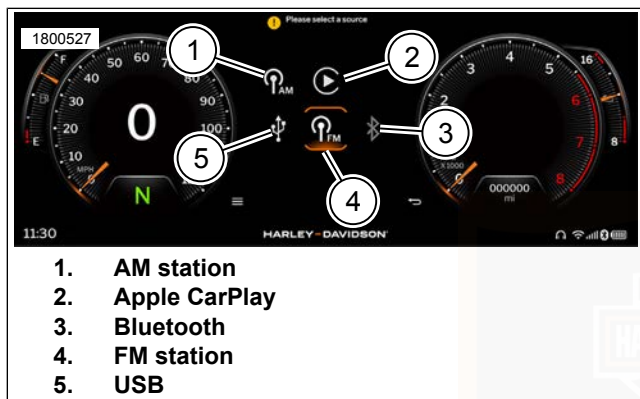

Figure 64. Selecting Source
See Figure 64. Select the desired media source by pressing OK/enter (5) button on LHCM or pressing icon on the screen.